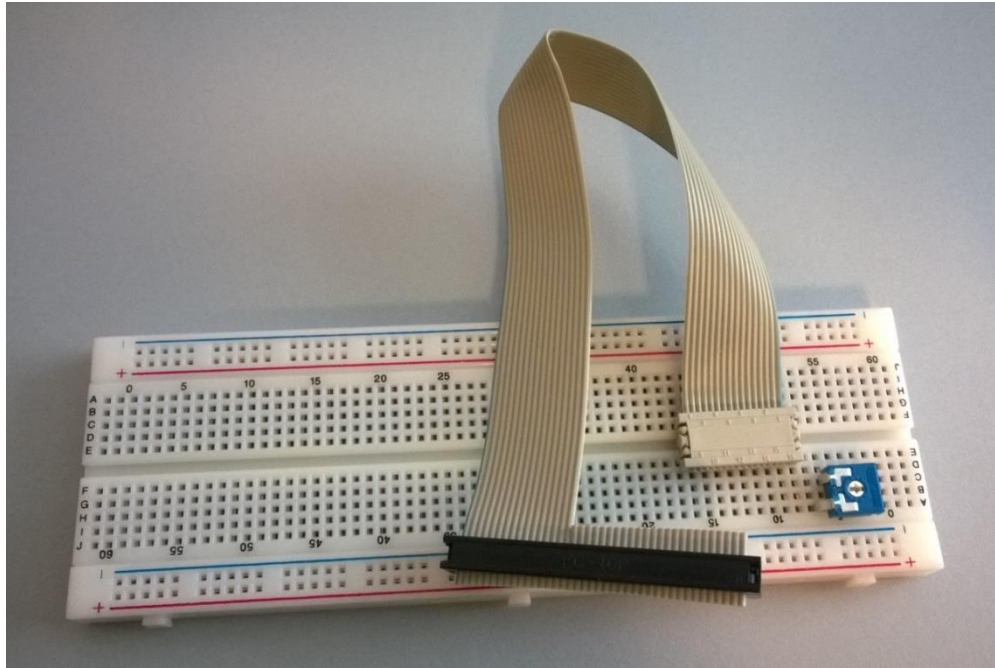

FIGURE 8 RIBBON CABLE AND FUMLEBRÆDDE
- 1) You must start out by building some hardware. Create a 16-way ribbon-cable with a 40-pin connector in one end (Pin 1 is marked by a small arrow on the housing) and a 16-pin DIP socket in the other end, as shown in Figure 8. You may just as well find a fumblebrædde from your drawers...